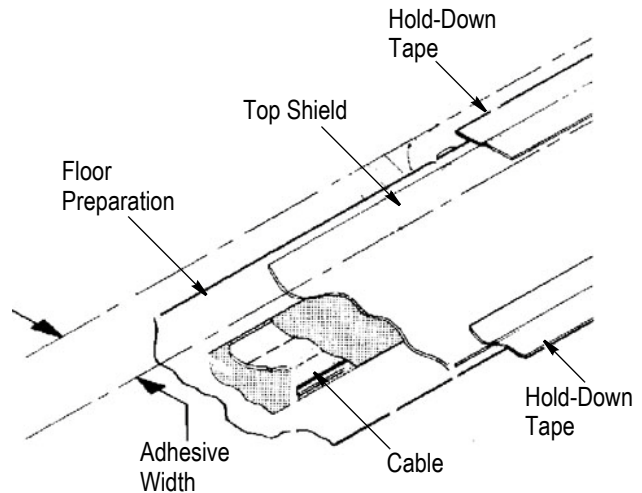

Figure 4
- c. Using the hold-down tape, continuously tape all edges of the top shield to the floor as close as possible to the floor fittings. Overlapping the tape is permissible. Refer to Figure 4. For slab-on-grade applications, the tape should overlap the top shield, floor preparation, and floor equally.